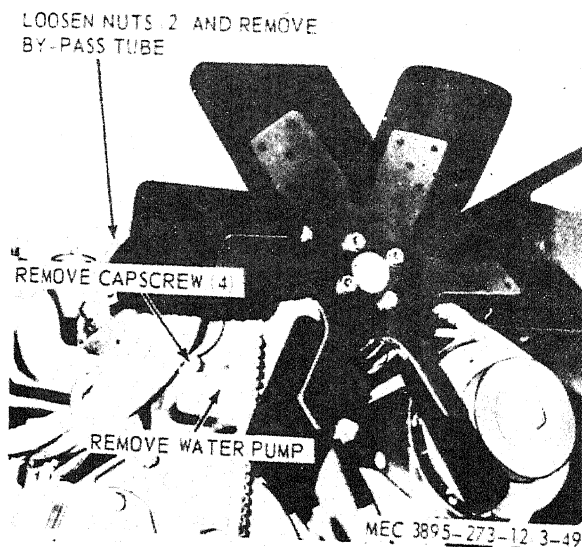

Figure 3-46. Water pump, removal and installation.
- (1) Remove the fan assembly (para 3-77).
- (2) Remove the water pump as instructed on figure 3-46.
- (1) Install the water pump in reverse of the instructions on figure 3-46.
- (2) Install the fan assembly (para 3-77).